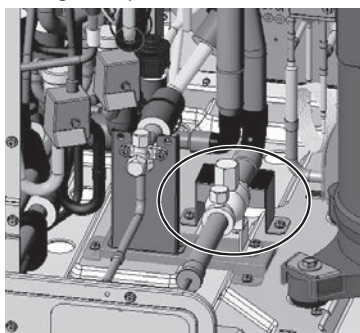

Figure 9
- (9A) Remove the sheet metal screwed to the base below four-way valve (21S4a) by unscrewing the two screws. (See Figure 9.)